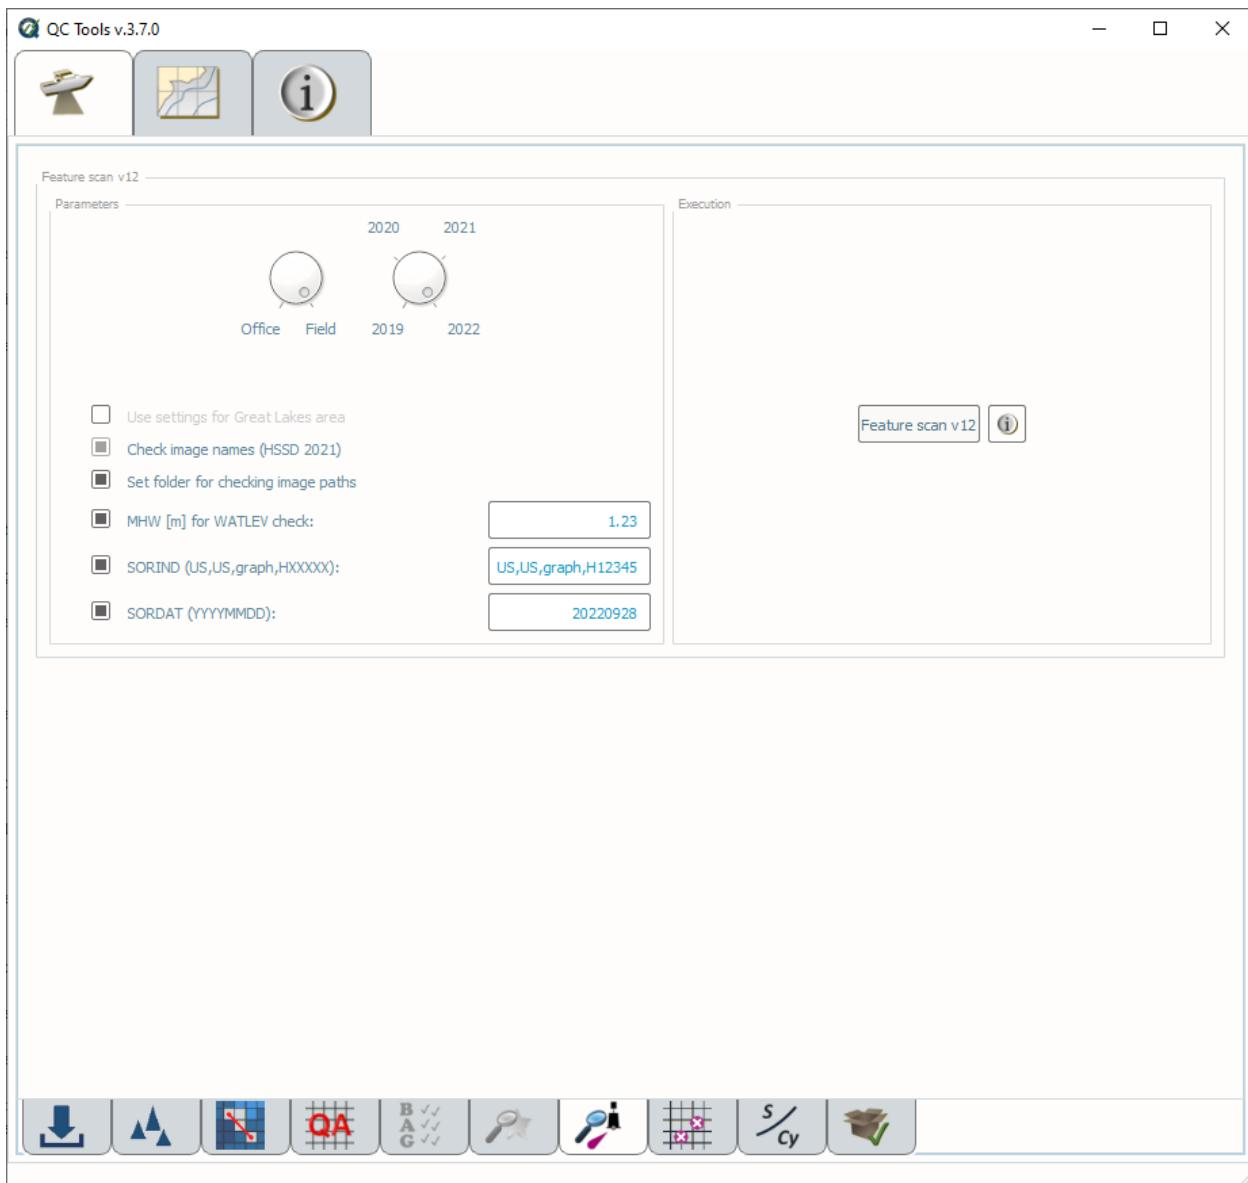

Fig. 2.49: The Scan features tab.
- Select the **Feature Scan** tab (Fig. 2.49) on the bottom of the QC Tools interface.